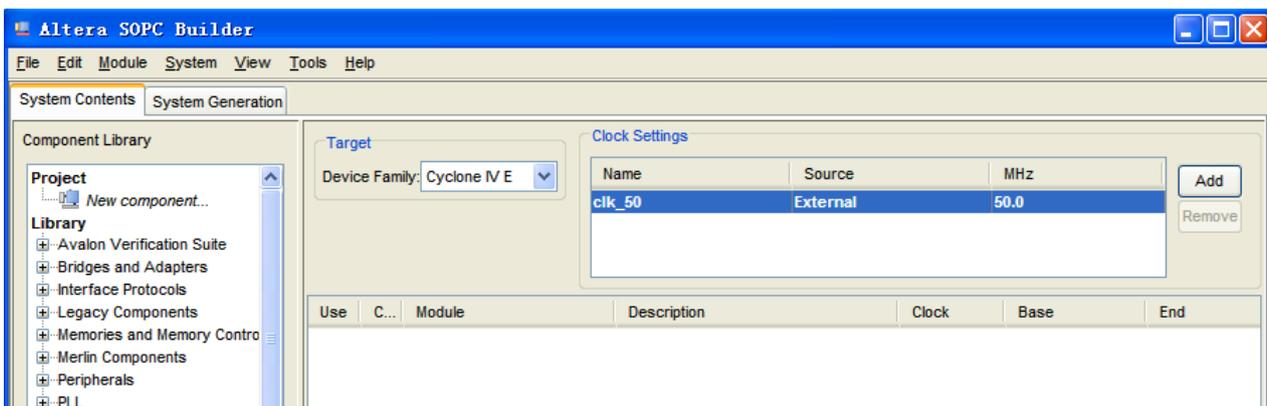

Figure 7-13 Rename Clock Name
7. Click the **clk\_0** name in the Clock Settings table to rename **clk\_0** to **clk\_50**. Press **Enter** to complete the update, as shown in Figure 7-13.